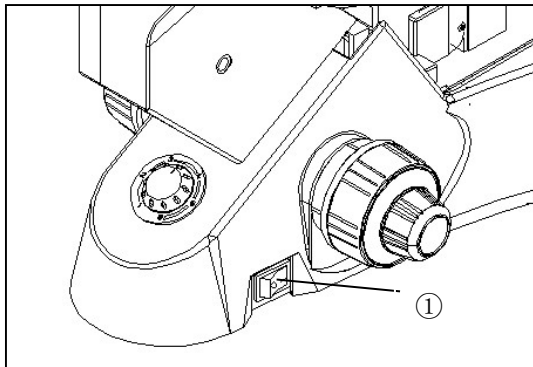

Fig.20
#### 4-1-1 Turning On the Lamp (Fig.20)
Connect the power supply, then set the main switch ① (shown in Fig.20) on the side of the base to “—”(on).